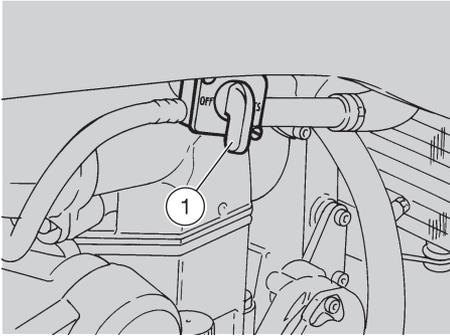

Fig. 17
STARTING (Fig. 17 ÷ 20)
- ◆ Turn the fuel tap lever to the "ON" position (1-Fig. 17).